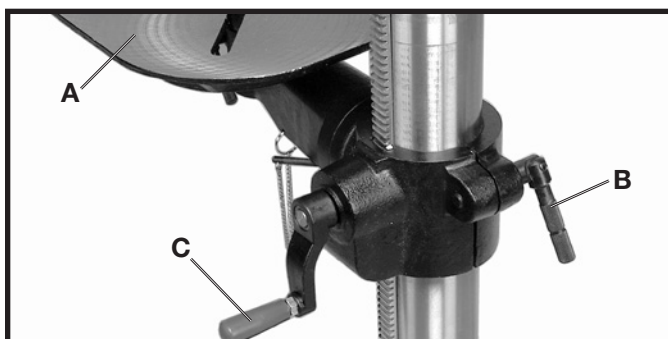

Fig. 22
1. The table (A) Fig. 22, can be raised or lowered on the drill press column by loosening the table clamp handle (B) and turning the table raising and lowering handle (C). After the table is at the desired height, tighten handle (B).